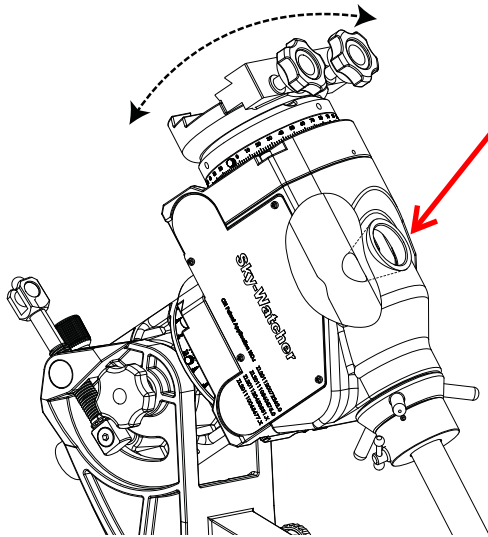

Fig. 3.1a
3. Remove the polar scope cap on the mount, loosen the Dec. clutch, and rotate the Dec. axis to allow the hole on the Dec. shaft to fully open for the polar scope and then lock the Dec. clutch again. (Fig. 3.1a & Fig. 3.1b) 3. 去掉赤道仪上的极轴镜盖，松开赤纬轴锁定装置，转动赤纬轴直到上面的极轴镜观察口充分打开然后再次锁紧赤纬轴锁定装置。